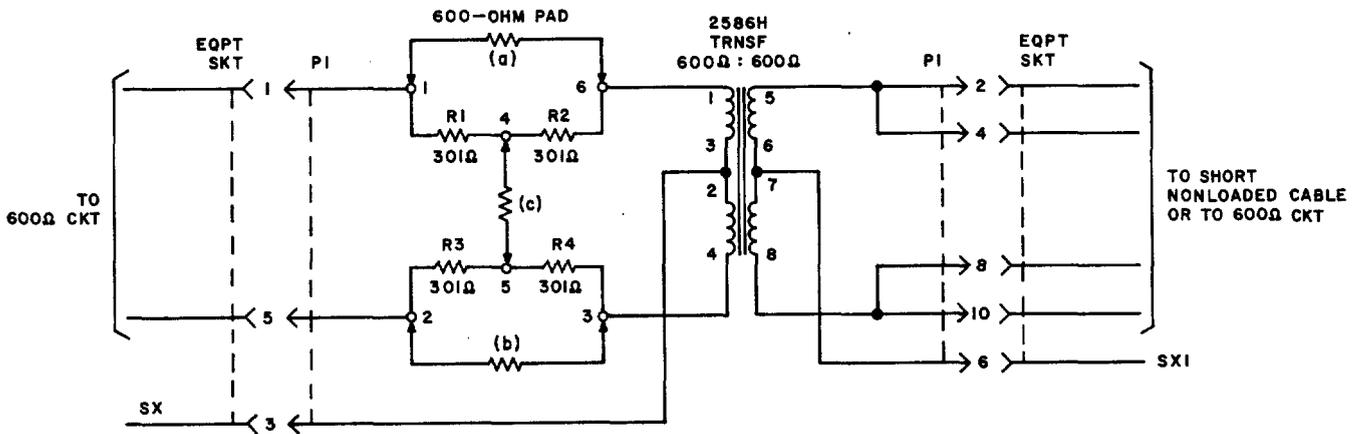

Fig. 2 — 849E Network — Schematic and Typical Circuit Connections
3.01 Fig. 2 is a schematic of the 849E network showing typical circuit connections. Transmission signals from a 600-ohm source are applied to terminals 1 and 5. Terminals 4 and 8 normally connect the output to a 600-ohm circuit or to a short length of nonloaded cable. The output is also strapped to terminals 2 and 10 to provide flexibility in special applications.